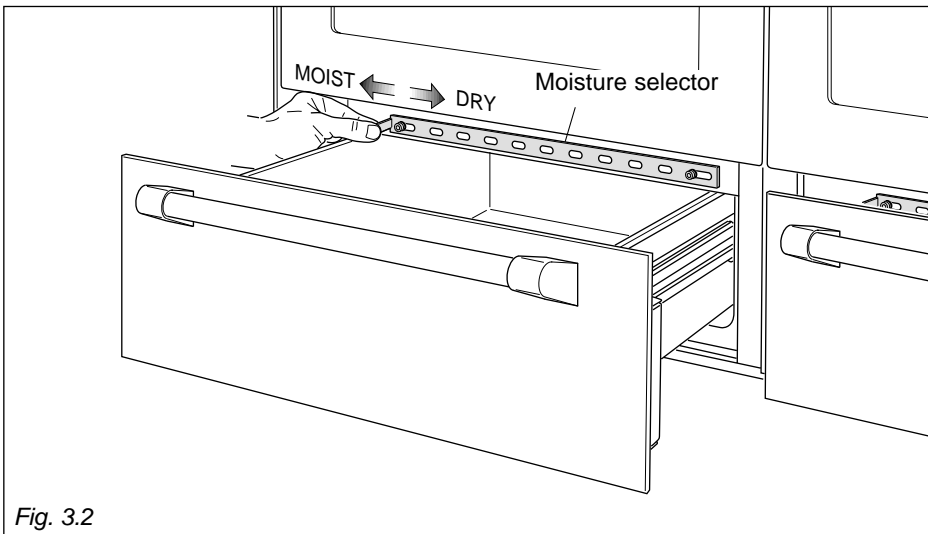

Fig. 3.2
- Slide the Moisture selector to a Moist or Dry position. Intermediate positions can be setted (fig. 3.2) (see the “MOISTURE SELECTOR” chapter).
MOISTURE SELECTOR (fig. 3.2)